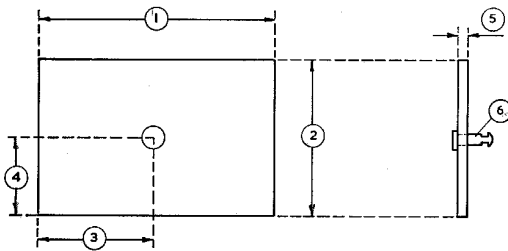

Fig. 4 (a)
- (ii) Lamps fitted with bulb No. 410 or 411 must be set on the dipped beam. The procedure requires the addition of an opaque perspex screen, dimensioned and marked as shown in Fig. 4(a) and (b) and positioned in front of the light-sensitive cell